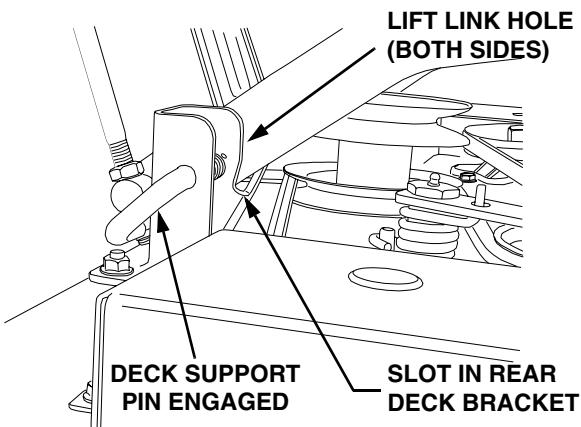

Figure 48
- Pull both deck support pins outward and rotate rearward to disengage the outer surface of the rear deck brackets. Release the pins, making certain each deck support pin passes through the inner hole of the rear deck bracket. The spring tension will push the pins inward and, if aligned, through the hole in each implement lift link (See Figure 48).